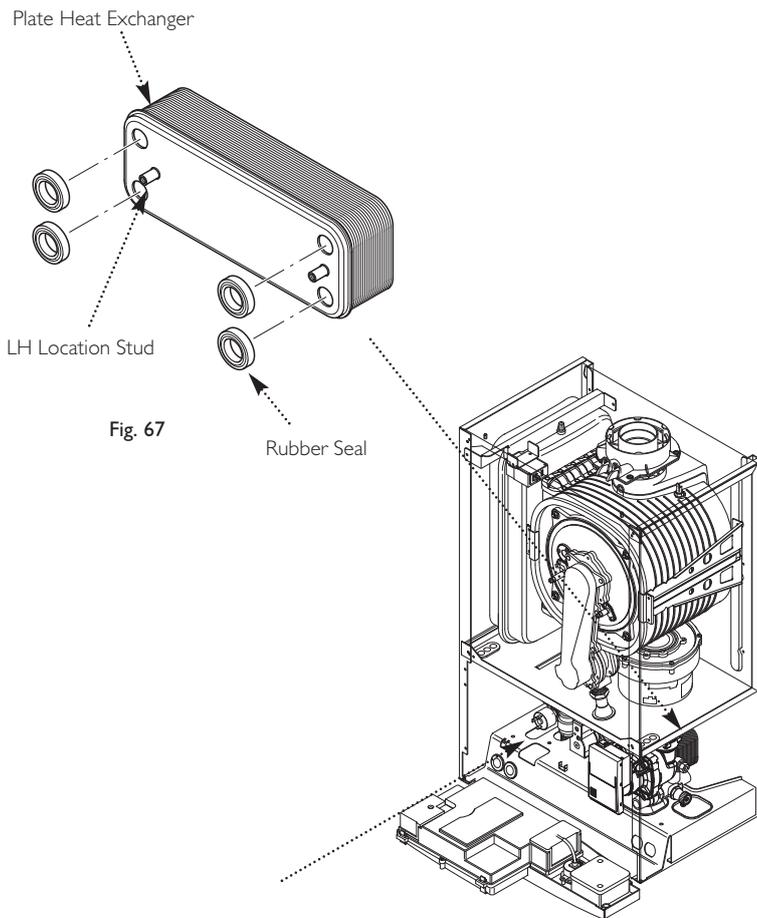

Fig. 67
13.19 Plate Heat Exchanger (Fig. 67)